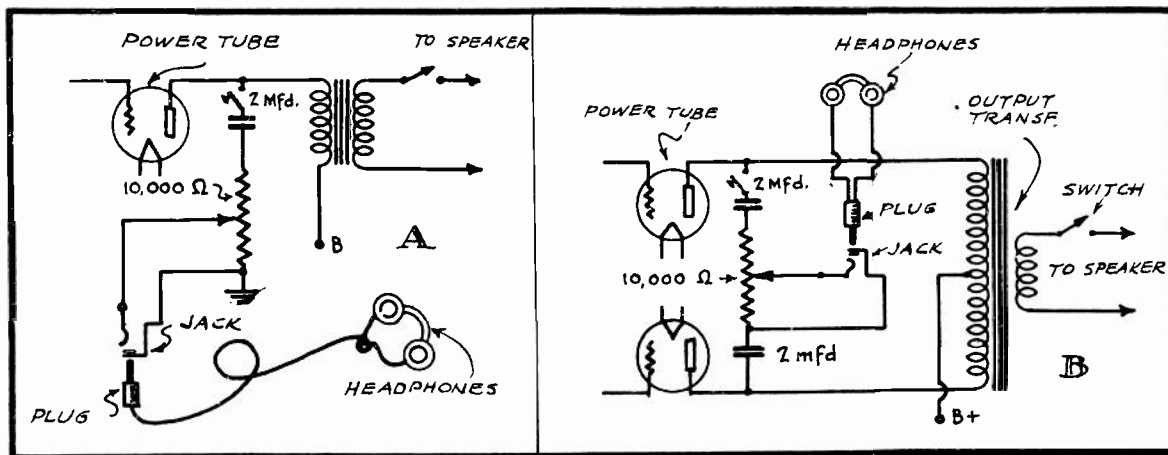

FIG. 3
1. - THE CIRCUIT AT "A" OF FIG. 3 ILLUSTRATES HOW THE HEADPHONE CONNECTION IS MADE ON A RECEIVER EMPLOYING A POWER STAGE WITH A SINGLE TUBE. THE 10,000 OHM POTENTIOMETER SERVES AS A VOLUME CONTROL FOR THE HEADPHONES. A "PLUG-JACK" OFFERS A CONVENIENT METHOD BY MEANS OF WHICH THE HEADPHONES CAN BE CONNECTED TO THE CIRCUIT WHENEVER DESIRED.
2. - "B" OF FIG. 3 ILLUSTRATES HOW TO MAKE THE HEADPHONE CONNECTIONS IN A PUSH-PULL POWER STAGE.